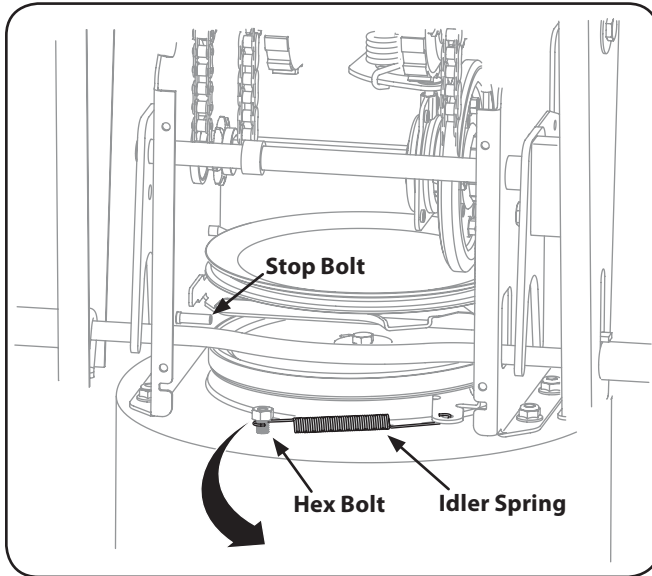

Figure 7-4
- Unhook the idler spring from the hex bolt on the auger housing. See Fig. 7-4.
- Back out the stop bolt until the support bracket rests on the auger pulley. See Fig. 7-4.